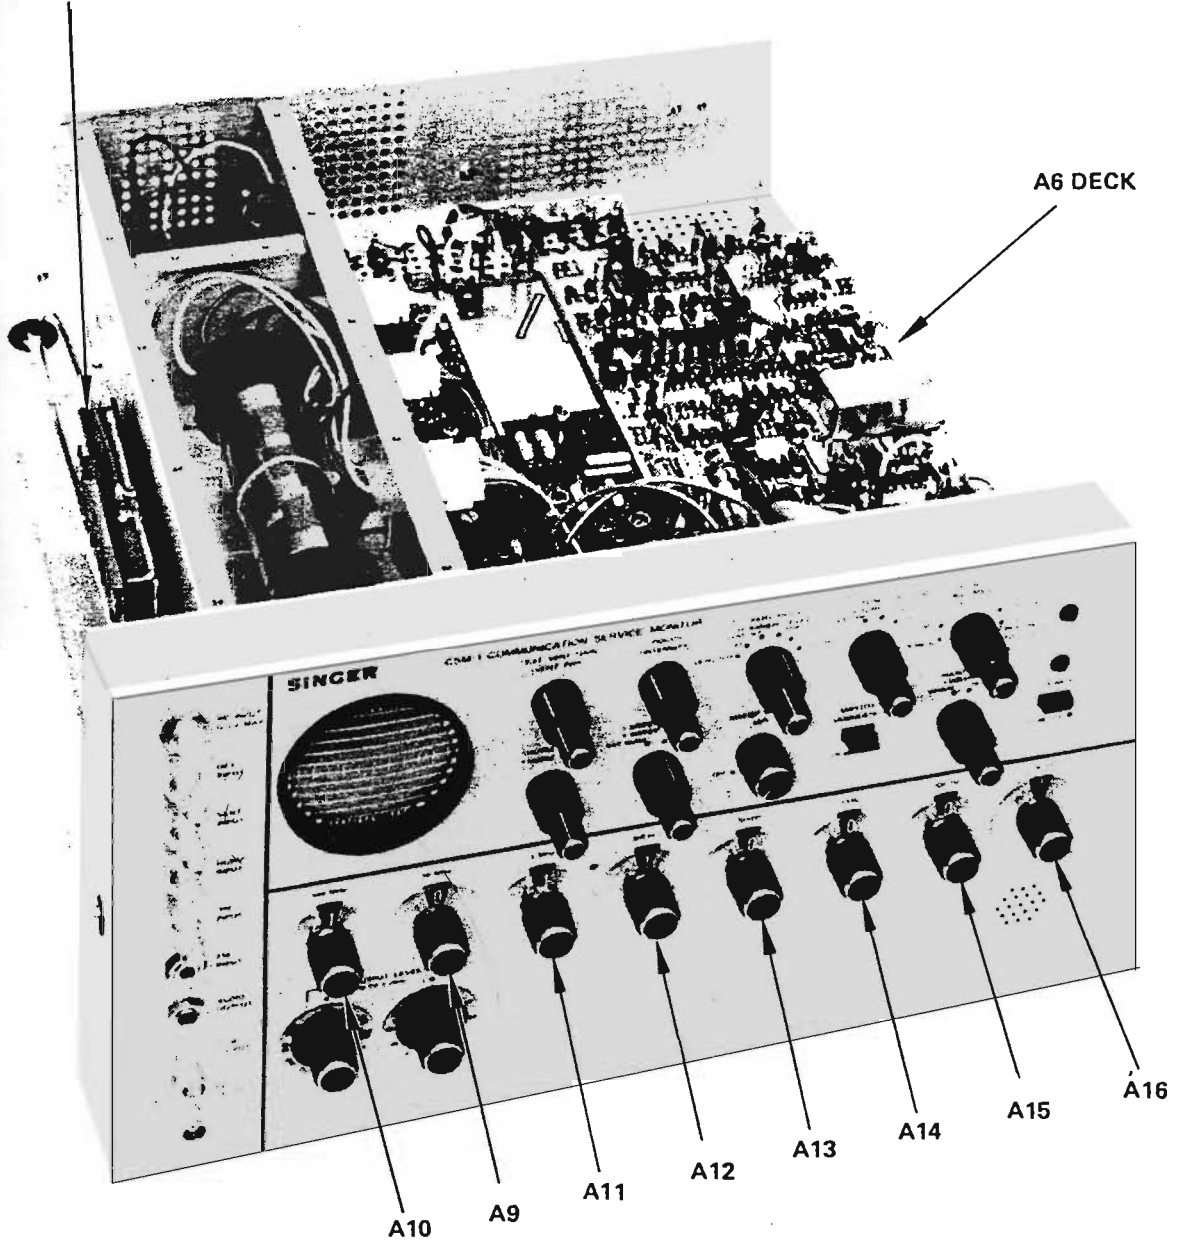
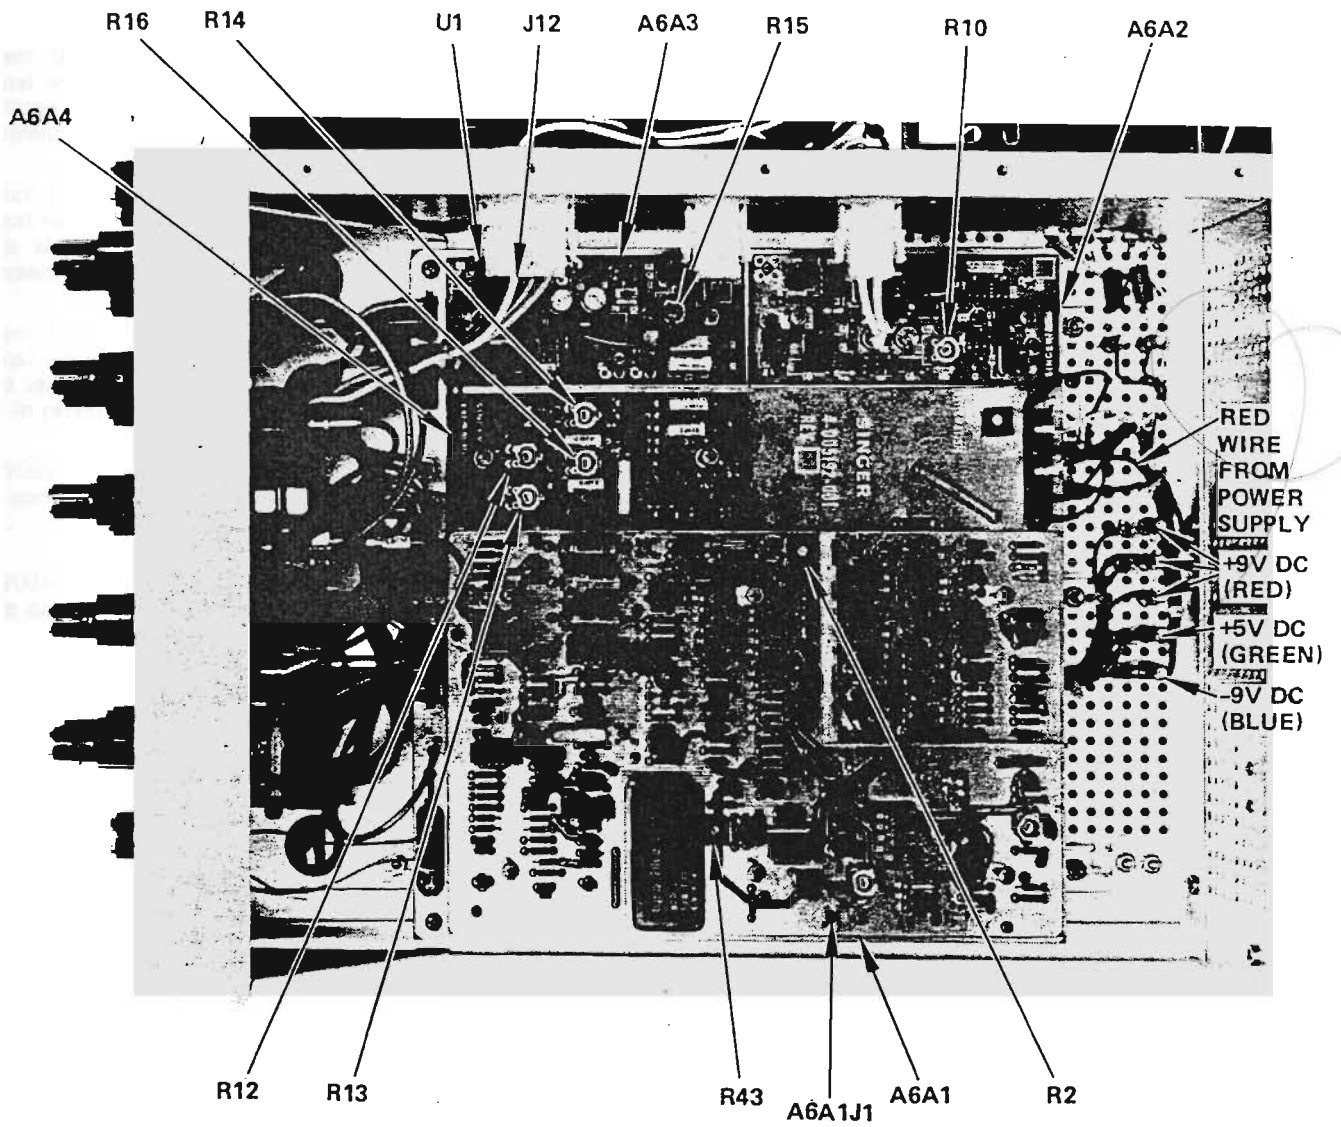

Figure 7-1. Assembly Location, Model CSM-1 Isometric View, Cover Removed
Figure 7-7. Adjustment Control Location, A6 Deck
The measure portion of the Model CSM-1 is contained on the A6 deck which is located on the top of the chassis (see Figure 7-1). The controls on the A6 deck are easily accessible (see Figure 7-7).
- a. Remove Model CSM-1 cover and turn the instrument on its left side, using two spacers to support the front panel frame. Push POWER push button to ON. Connect the negative lead of the DVM to any chassis ground and the positive lead to one of the 3 terminals with red wires behind the A6 board (see Figure 7-7).
- b. Connect the positive lead of the DVM to the terminal with the green wires (see Figure 7-7). The dc voltage should read +5V  $\pm$ 0.5V. There is no adjustment (refer to paragraph f).
- c. Connect the positive lead of the DVM to the terminal with the yellow wires (see Figure 7-7) dc voltage should read +250V  $\pm$ 25V. There is no adjustment (refer to Paragraph f).
- e. Adjust A6A1 R43 potentiometer (see Figure 7-7) until the CRT trace lines up with CARRIER SET position (top line of CRT).